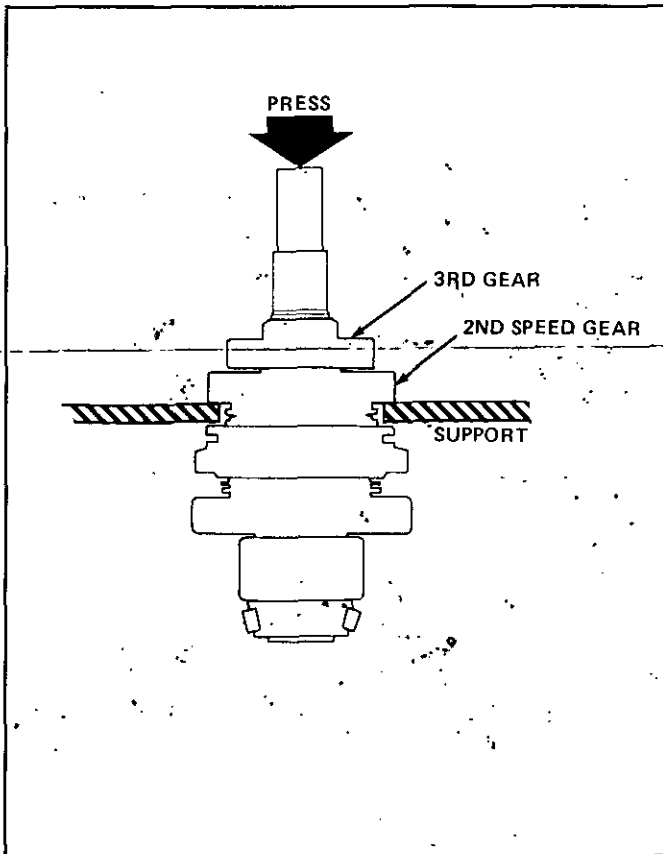

Figure 20 Removing 3rd Gear and 2nd Gear (Output)
3. Slide the 1-2 synchronizer assembly into first gear position to allow press plates to support 2nd gear. Press 2nd speed gear and 3rd gear from the output shaft. Remove the brass blocker ring (Figure 20).